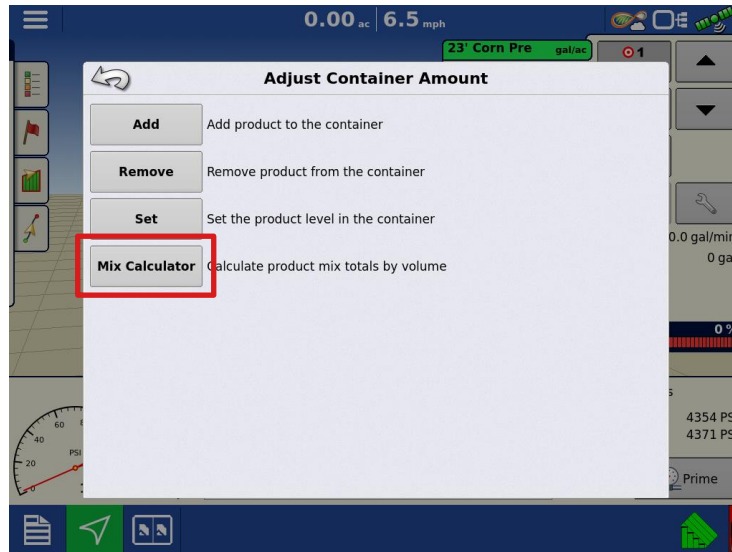

Figure 2 – Access the product mix calculator while in an operation via the container adjustment page
- **NEW:** Product Mix by Rates calculator available on the container page (Figure 2)
- **NEW:** RightSpot™ nozzle by nozzle spraying system (Figure 2)
Figure 2 – Maintain consistent droplet size and boom pressure across speed ranges with RightSpot™, in addition to nozzle-by-nozzle AutoSwath control and turn compensation to apply accurate rates around curves